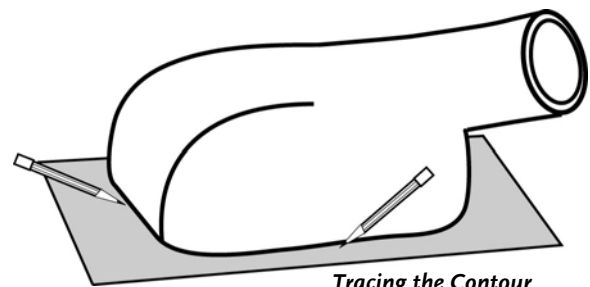

Figure 21
- i) Place the Universal Deck Adapter on its side (**Figure 21**) on the Template Board. Trace the outline and cut the board to the outline. Make note of the Front and Bottom on the Template Board.